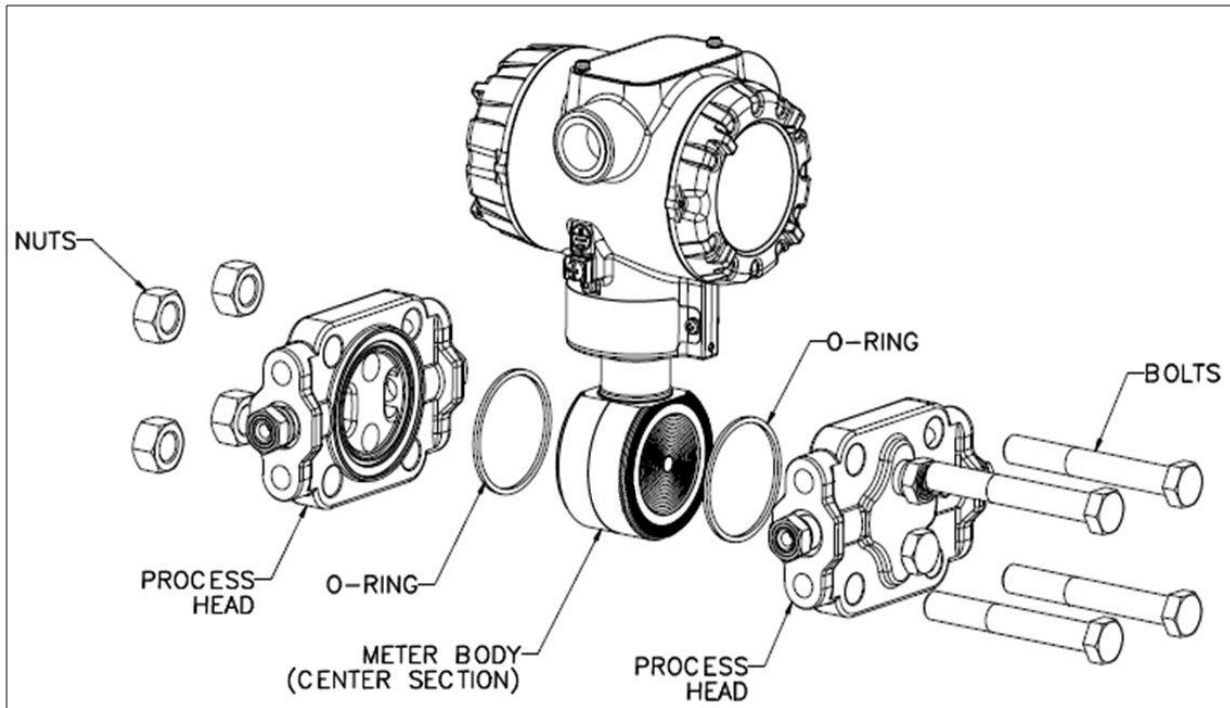

Figure 22 – ST 700 Standard Transmitter - DP Transmitter Head Disassembly
The following procedure comprises the general steps for inspecting and cleaning barrier diaphragms. You may have to modify these steps to meet your particular process or transmitter model requirements. Figure 22 shows an exploded view of a Differential Pressure (DP) Transmitter meter body for reference. For disassembly/reassembly purposes, Gauge Pressure (GP) and Absolute Pressure (AP) Transmitters are similar.